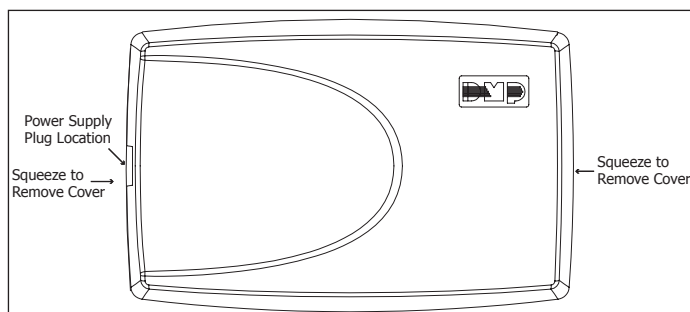

Figure 1: 1116 Wireless Relay Output
1. Squeeze the cover left and right sides together to remove. See Figure 1.
1. Squeeze the left and right cover sides together to remove. See Figure 1.